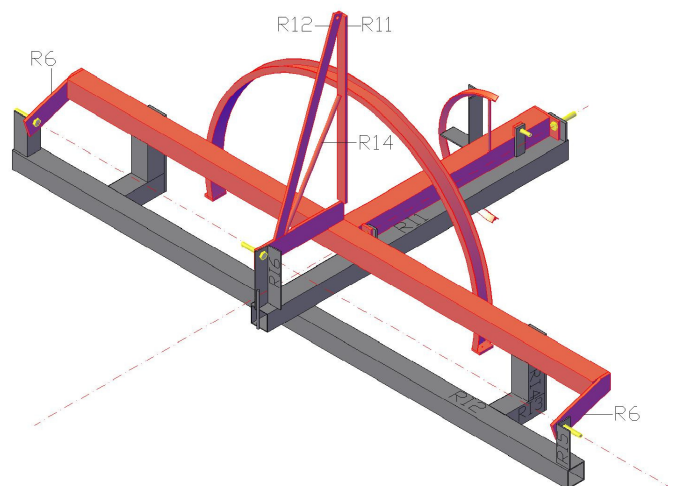

Fig. 12: Assembly of RS step 8-11
- Step 7** Weld R11, R12 and finally R14 as shown in Fig.12. Make sure that the distance (605mm) from the axis of rotation to the hole on R12 is correct.